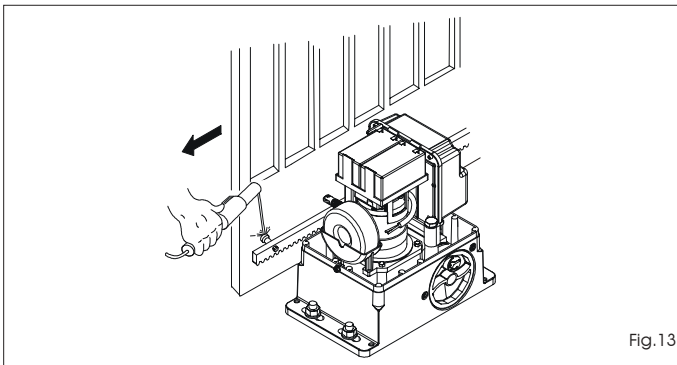

Fig. 13
- 3) Lay the first section of rack level on the pinion and weld the threaded pawl on the gate as shown in Fig. 13.